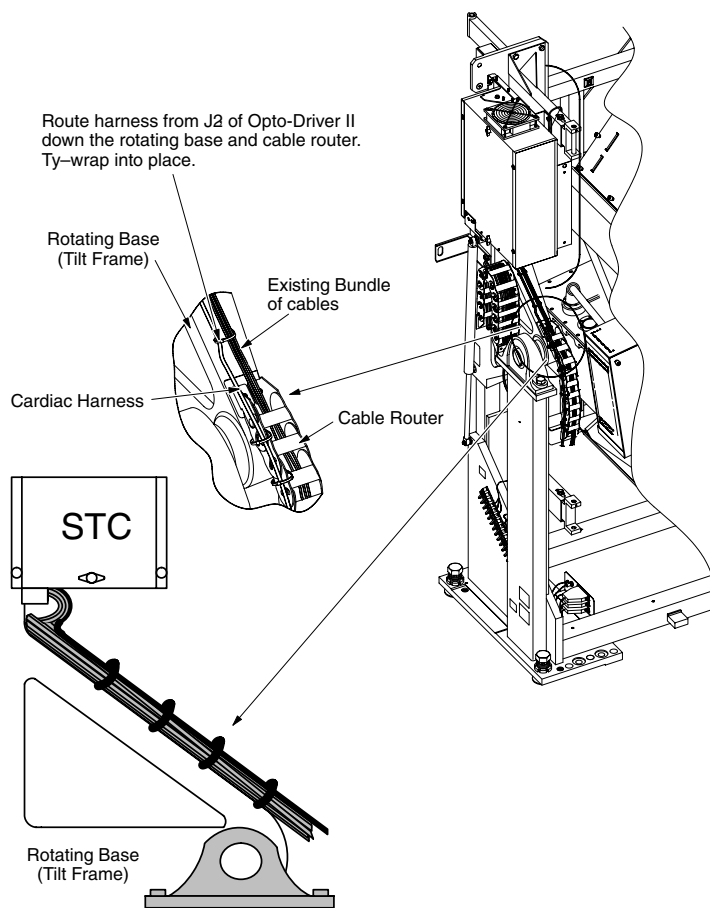

Figure 3-3 Route the Cardiac Harness down the Rotating Base
- 8.) Refer to Figure 3-3. Route the Cardiac harness down the rotating base and cable router.